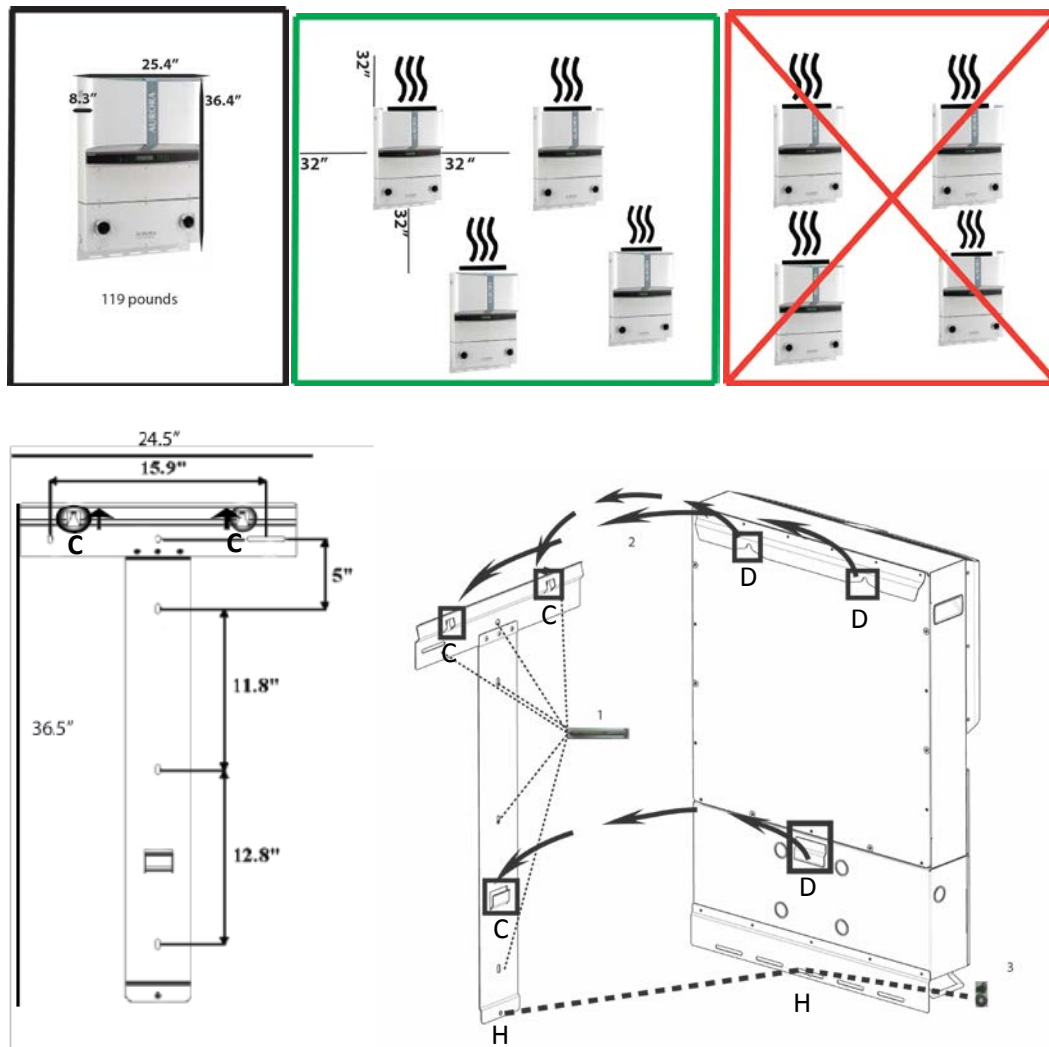

Figure 3:01- Bracket and Mounting Details
Step 2: Orient the bracket on the mounting surface such that the “C” hooks face outward and upward. (Figure 3:01)
Step 3: Using the hardware provided, mount the bracket using mounting holes shown in Figure 3:01.